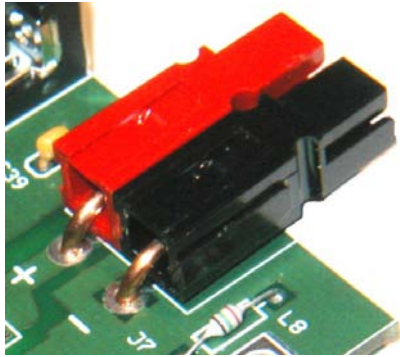

Figure 25. Installing J7.
- The Anderson power connector is held in place by two heavy copper wires soldered to the circuit board (See Figure 25). Prepare and install the connector as described in the following steps.